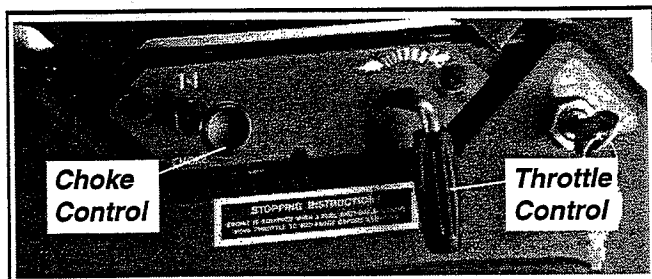

Figure 6. Optional Engine Mounted Throttle and Choke Controls (CH18-25, CH730, 740).
1. Place the throttle control *midway* between the "slow" and "fast" positions. Place the choke control (non-EFI engines only) into the "on" position. See Figure 6.